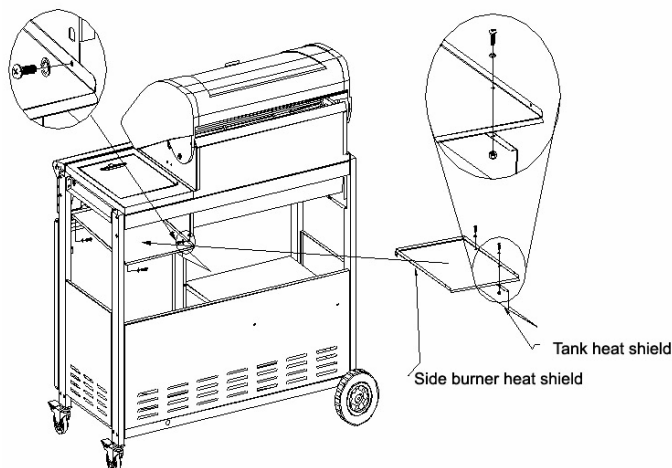

Figure 12
4. Using (2) $\frac{5}{32}$ x $\frac{2}{5}$ " Phillips head screws and (2) $\frac{5}{32}$ " nuts with (2) $\frac{5}{32}$ " lock washers, attach the side burner heat shield and tank heat shield together. Use (4) $\frac{5}{32}$ x $\frac{2}{5}$ " Phillips head screws with (4) $\frac{5}{32}$ " lock washers to attach the shield assembly to the leg and firebox bottom. See (Fig 12.)